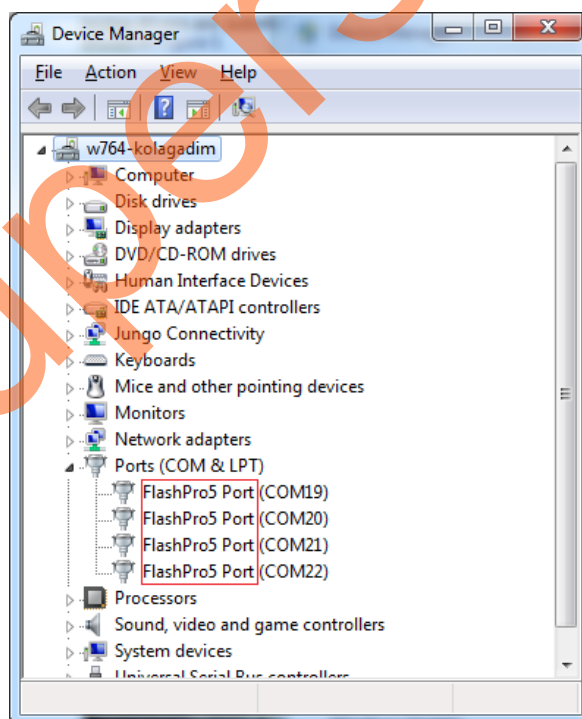

Figure 6 • Device Manager
1. Connect the Host PC to the J33 Connector using the **USB A to mini-B** cable. The USB to UART bridge drivers are automatically detected. Verify if the detection is made in the device manager as shown in Figure 6.